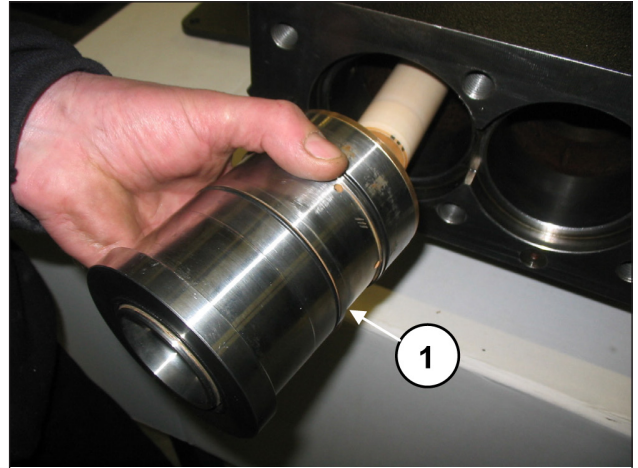

Fig. 159
Insert the previously-assembled liner/gasket support block (complete with its two O-rings), until it is snugly in place (pos. ①, Fig. 159).